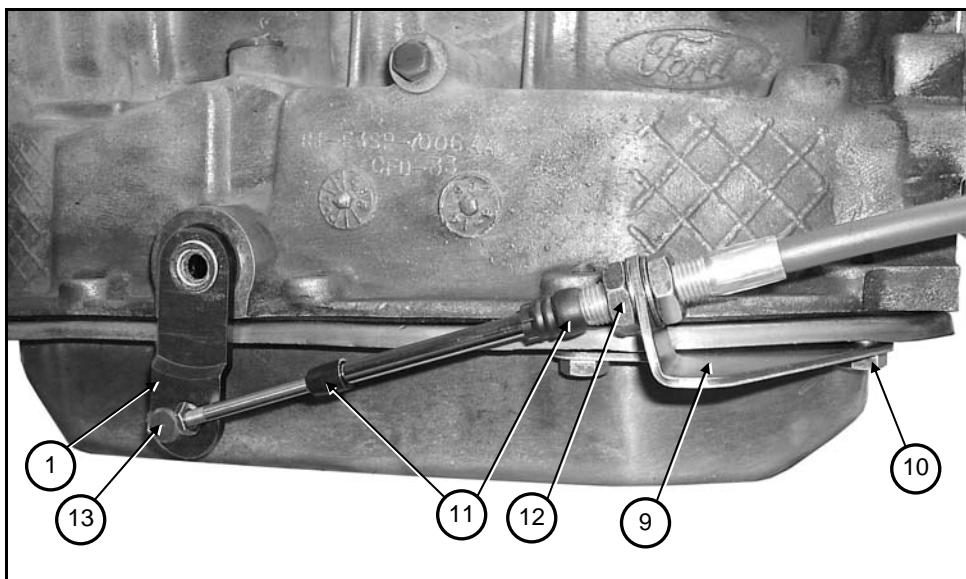

Figure 2
**Step 4** Remove the oil filter from the valve body. Remove the detent spring attaching bolt and the spring (4).
**Step 5** Use a pair of diagonal cutters to remove the shift lever retaining pin (5) from the case. Loosen the 20 mm nut on the inner end of the shift lever and slide the lever out. Leave the throttle lever shaft and inner lever (6) in place.
**Step 6** Slide the new shift lever into the case over the throttle lever shaft. The arm should be pointed downwards. Engage the new shift lever (1) with the inner shift lever (7) and install the nut. Install the shift lever retaining pin back into its hole in the case and tap it in. Tighten the nut. Check to see that the inner throttle lever (6) is properly located and that the spring is in place. Check that the Park operating rod (8) is in place.
**Step 7** Install the throttle lever (2) onto its shaft and tighten the nut. Be sure that linkage is in its original position. Install the detent spring and its bolt (4). Check that the throttle lever moves freely and that it pushes in the throttle valve on the valve body. Check that the shift lever (1) moves through all its positions and the Park operating rod (8) moves with it. Replace the oil filter. We recommend that you use a new filter unless the current filter has very low mileage. Replace the oil pan gasket with a new gasket.
**Step 8** See **Figure 2.** Replace the original bolts except the two that secure the cable bracket. The cable bracket (9) is installed with the supplied longer bolts with spacers (10) between the bracket and the flange on the pan. (Spacers are not required for cast pans.) Tighten the oil pan bolts to 12-16 ft.-lbs.
**Step 10** Remove the two rubber boots (11), one large nut and a large washer (12) from the shifter cable. Route the cable from the shifter to the transmission as explained in the shifter installation instructions. Avoid sharp bends and route the cable away from hot engine exhaust parts. Cable may be secured up and out of the way with nylon cable ties. Slide